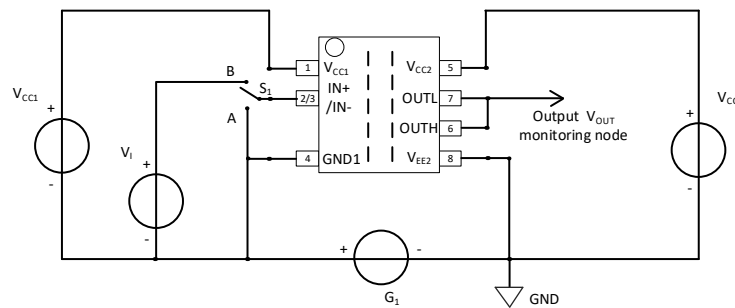

Figure 24. Common-mode transient immunity (CMTI) measurement
(3) See Figure24 for Common-mode transient immunity (CMTI) measurement.